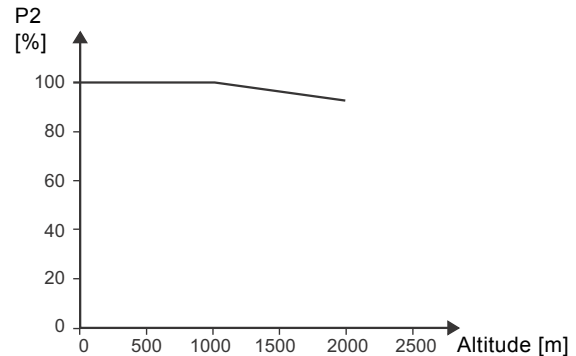

Fig. 16 Derating of motor output (P2) in relation to altitude above sea level
- Motors installed more than 1000 metres above sea level must not be fully loaded due to the low density and consequent low cooling effect of the air. See fig. 16.